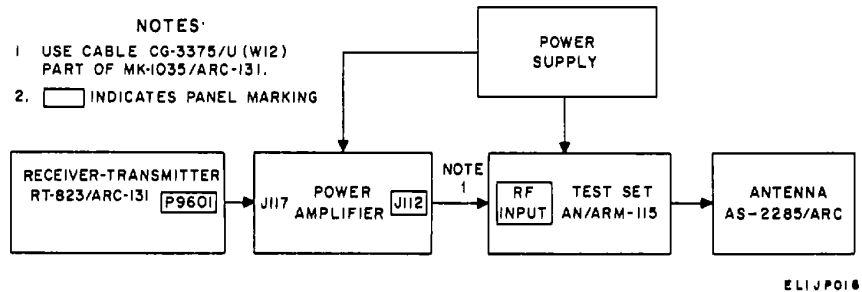

Figure 3-1. Test connections, antenna vswr test.
- (1) Test Set, Antenna AN/ARM-115.
- (2) Maintenance Kit MK-1035/ARC-131.
- (3) Receiver-transmitter RT-823/ARC-131.
(4) Power Supply.
b. Test Connections and Conditions. Connect The equipment as shown in figure 3-1 with ground plane. Turn on the equipment and allow 5-minute warmup before proceeding.